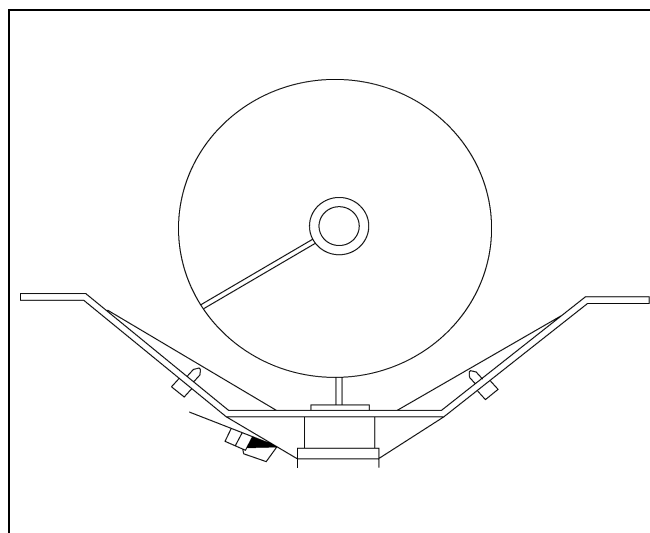

Figure 3H
6. Mount the sensor in the trough such that the grain will flow over the sensor blade per the decals on the sensor assembly. Make sure that the sensor block fits securely in the rectangular hole. Secure the sensor assembly by modifying the worm gear clamps and screwing the ends to the sides of the trough. *(See Figure 3H.)* Fasten the grounding strap from the sensor to the trough in the area that the flighting has been removed with a self-drilling screw. Leave at least 2" between the sensor block and the grounding screw.